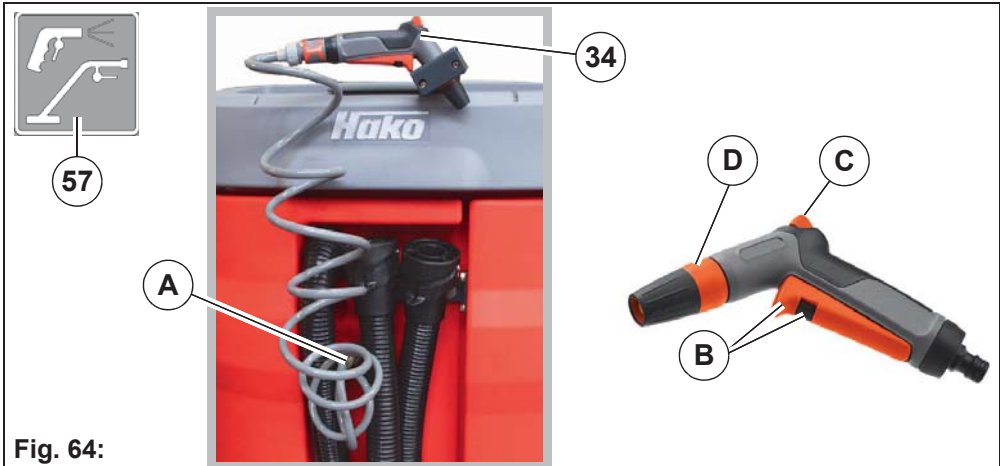

Fig. 64:
1. Connect the hose to the water connection of the machine **Fig. 64-A**.